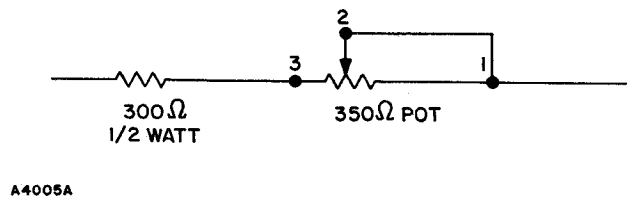

Figure 2-3. Connection of Resistor Network
- a. Connect resistor network shown in Figure 2-3 across R50.
- a. Place resistor network shown in Figure 2-3 across R60 on PC2 card.